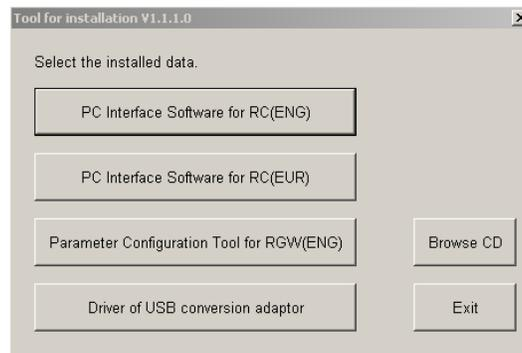

Fig. 1.14 Installed Data Selection Window
[2] The installed data selection window (Fig. 1.14) will be displayed.
- [6] Once the complete window (Fig. 1.18) has been displayed, click **OK**. The complete window (Fig. 1.18) will disappear. Then, click **Cancel** on the window to specify the folder of the copy destination (Fig. 1.15). The window to specify the folder of the copy destination (Fig. 1.15) will disappear. Finally, click **Exit** on the data selection window (Fig. 1.14). The data selection window (Fig. 1.14) will disappear.